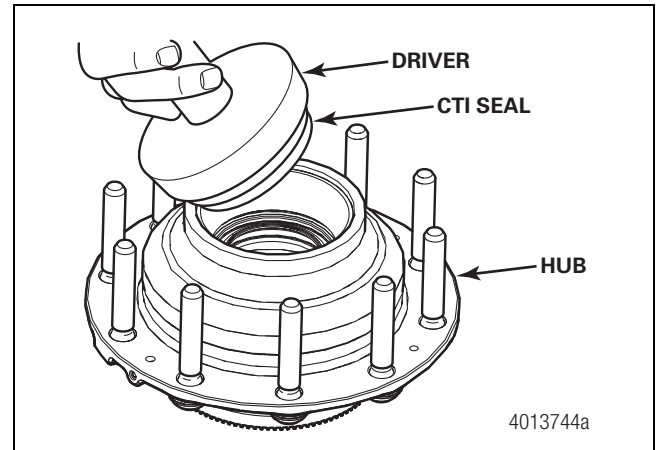
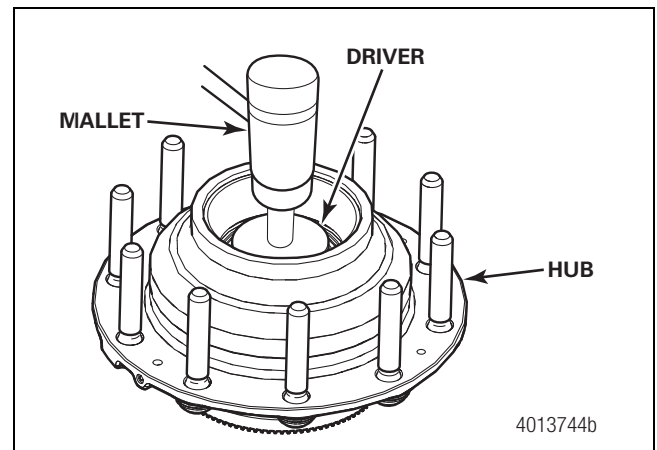

Figure 16.6
Figure 16.7
7. Place the outer CTI seal and driver squarely into the hub. The seal will stay fitted to the driver. Use a mallet to install the outer CTI seal. Figure 16.6 and Figure 16.7.